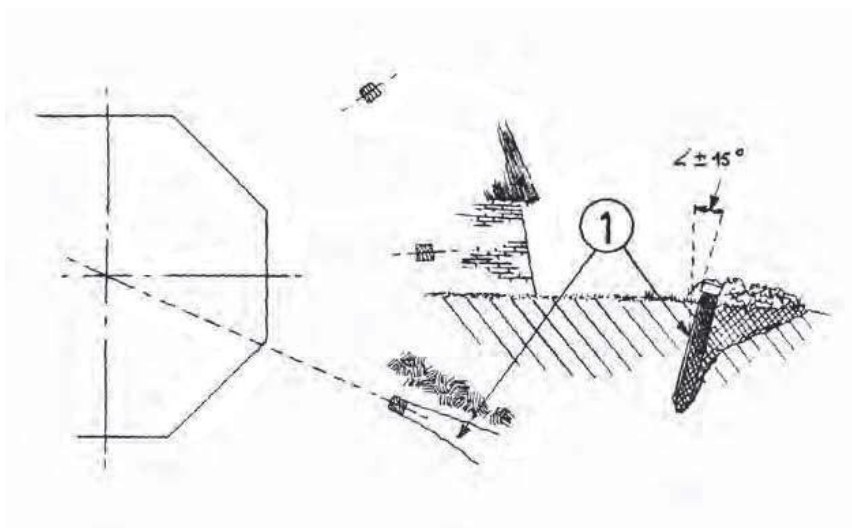

Fig. 7.6.5.1
- a. Starting from the bollard to be replaced, dig a trench away from the mill (see Fig. 7.6.5.1). Once it is deep enough, pull the bollard backwards and remove it from the trench.